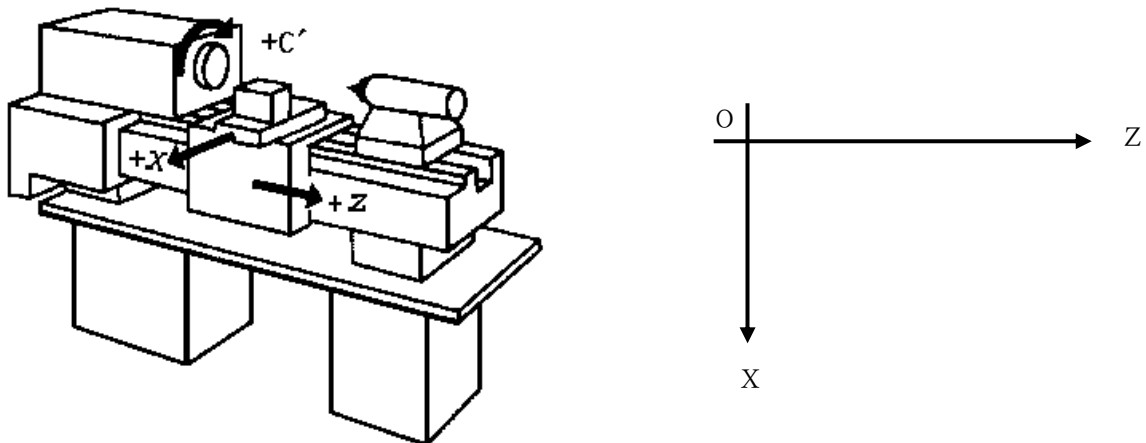

Fig. 1-1 X—Z plane rectangular coordinate system 1 (front toolpost coordinate system)
This system has defined the controlled axis and its motion according to GB/T 19660—2005/ISO 841:2001 **Industrial Automation System and Integration-Numerical Control of Machines-Coordinate System and Motion Nomenclature**. The two coordinate axes are named with X and Z, which are perpendicular each other to form X—Z plane rectangular coordinate system as Fig. 1-1:
The coordinate system in the manual defines X, Z based on Fig. 1-1(front tool post coordinate system). Some commands of G codes must be converse when Fig.1-2(rear tool post coordinate system) defines X, Z:
- 1) When G02 programming based on Fig.1-1, Fig. 1-2 uses G03 programming; when G03 programming based on Fig.1-1, Fig.1-2 uses G02 programming.
- 2) When G41 programming based on Fig.1-1, Fig. 1-2 uses G42 programming; when G42 programming based on Fig.1-1, Fig.1-2 uses G41 programming.